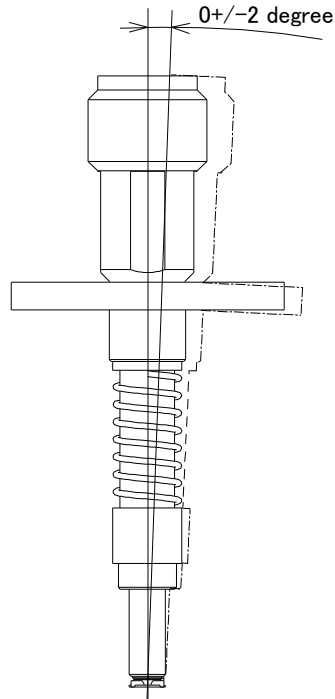

Figure.5 Probe Shape Operation Manual for Auto Measurement probe (MM121543)-
3.3 The slant angle tolerance of probe against MM5831-2700/MM7831-2700/cable plug. (Figure 5)